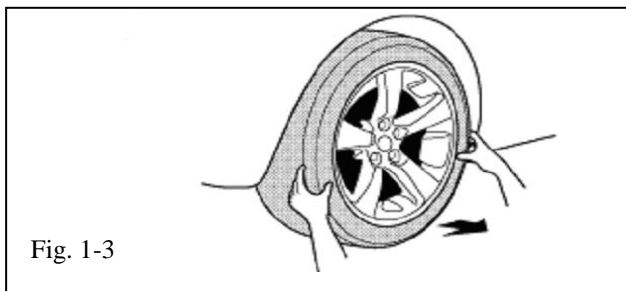

Fig. 1-3
- Remove 4 OE wheel and tire assembly from vehicle (Fig. 1-3). Wear safety glasses while removing wheels.